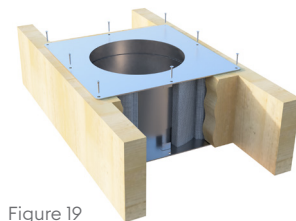
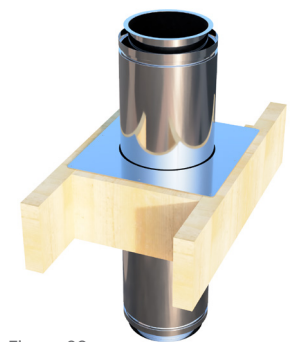

Figure 19
Figure 20
3. With the insulation fully filling the void around the outside of the lower Radiation Shield, slide the Top Plate and Radiation Shield over the Lower Plate Radiation Shield. Bring the plate flush and square with the timbers. The location spacers should position the plate correctly within the top of the frame. Finish the assembly by screwing the top plate into the timbers as Figure 19. The vent can now be installed through the penetration assembly. Due to the required clearance the vent may require a degree of manipulation when passing through the floor penetration assembly. See Figure 20.